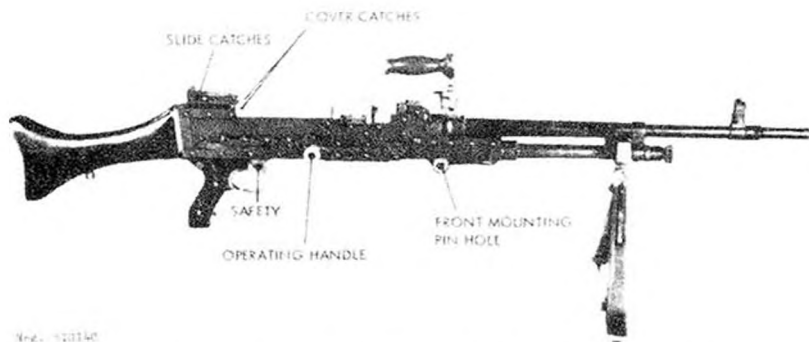
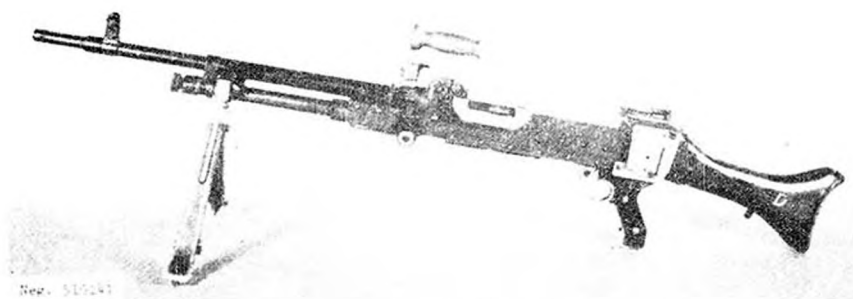
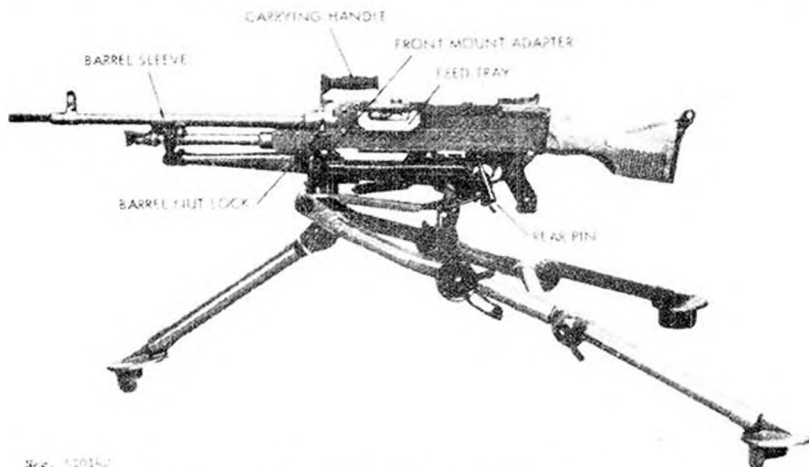
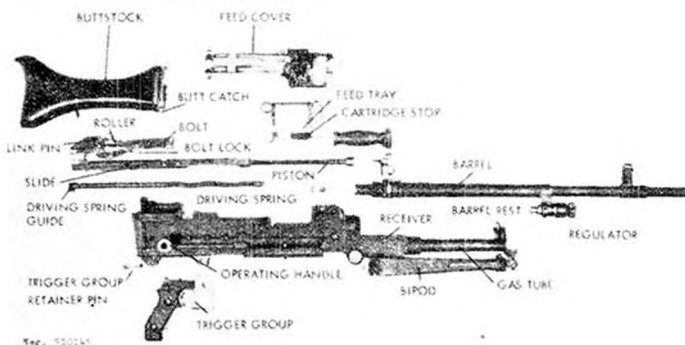

Figure 141. Belgium M.A.G. machinegun.
Figure 142. British L7A1 machinegun.
Figure 143. M.A.G. on tripod mount.
Figure 146. M.A.G. disassembled.
a. The M.A.G. machinegun (fig 141) was developed in Belgium by the F.N. organization in 1958; M.A.G. stands for *Mitrailleuse a Gaz* or gas-operated machinegun. The M.A.G. is used not only by the Belgian Army, but also by British, Swedish, Israeli, and several other armies. The British guns (fig 142) are known as Machinegun 7.62-mm L7A1 (or L7A2) and are so marked on the left side of the receiver. The Swedish gun is the Kulspruta 58, and the other countries usually refer to these guns by the manufacturer's designation: M.A.G. 58.
b. The M.A.G. is an air-cooled, gas-operated belt-fed general purpose machinegun. It is normally fired from its bipod, but it can also be mounted on and fired from a light tripod (figs 143 and 144). The barrel is of the quick change type. Special versions without butt stocks or bipods are available for use in armored vehicles. An accessory butt stock and bipod is carried in the vehicle for use when the gun must be dismounted for emergency ground use.
b. Open the bipod by pressing in the bipod retainers (located on the receiver between the bipod feed), and at the same time, squeeze the bipod legs together to disengage them from the receiver. When the legs are free, swing them to open. To install the gun on a tripod mount, align the front mounting pin hole of the gun (fig 141) with the front adapter (fig 143) and install the front pin. Lower the receiver down onto the rear mount adapter and insert the rear pin. Refer to paragraph 199 for additional information on tripod mounts.
c. Pull the operating handle (fig 141) fully rearward and then thrust it fully forward. Press the safety (fig 141) to the right (to safe "S"). Press the cover catches (fig 141) and open the cover. Place a loaded ammunition belt on the feed tray, open side of the link down, and first cartridge resting against the cartridge stop (fig 141). Close the cover. CAUTION: The gun is now loaded and ready to fire.
d. Lift the rear slight leaf. Press the slide catches (fig 141) and move the slide along the leaf until the top of the slide aligns with the numeral that corresponds to the range in hundreds of meters. The battle sight, visible when the leaf is folded, is for ranges up to 200 meters.
f. When the barrel becomes hot from firing, it should be changed. Press the barrel nut lock (fig 143) and, while holding it in, rotate the carrying handle to its vertical position. (This action rotates the barrel nut and unlocks the barrel.) Pull the barrel forward, out of the gun. Place a cool barrel on the rest at the front of the gas tube (fig 146). Align the rear end of the barrel with its hole in the receiver and seat the barrel. Rotate the barrel handle down to the right until the barrel nut lock clicks into place.
h. The gas regulator should be set so that the figure "1" is just visible under the left side of the sleeve around the barrel (fig 143). This gives a normal firing rate of approximately 650 rounds per minute. If a maximum rate of fire is desired, rotate the regulator until it is fully closed against its stop. Use settings "2" or "3" when the gun starts to malfunction due to fouling. Under very adverse conditions, close the regulator fully.
a. Clear the gun (para 196i). Remove the barrel (para 196f). Press the cover catches (fig 141) and open the cover. Depress the butt catch (fig 146) and slide the butt upward until it is removed.
b. Press the end of the driving spring guide (fig 146) forward, then upward, and ease it to the rear. Remove the driving spring. Hold a hand behind the receiver rear opening and pull the operating handle (fig 141) sharply rearward. The bolt and operating slide will come out of the rear of the receiver and can be removed. Push out the link pin (fig 146) and separate the bolt from the slide.
d. Align the holes in the link and slide and insert the link pin. Start the piston into the receiver. Press the bolt lock (fig 146) against the bolt and pull the bolt as far forward as possible from the slide. Align the bolt up with its guides and push the entire bolt and slide forward. Insert the driving spring into the slide, press the trigger, and use the spring to push the slide (and bolt) fully forward. Press the driving rod forward, against spring pressure, until it can be seated in the slot in the bottom of the receiver.
c. For the M.A.G. tripod, remove the rear pin (fig 143) from its hole, then place the gun on the mount with the gun mount bosses engaged with the shoulders on the front of the front mount adaptor (fig 143). Align the rear pin holes in the receiver with the holes in the mount and insert the rear pin (fig 143). Reverse this procedure to remove the gun. To traverse the gun, loosen the traverse clamp. Tighten this clamp before firing. Fine traverse adjustments are made after tightening the traverse clamp by rotating the fine traverse knob. To elevate the gun, release the clamp on the elevating knob and rotate the knob to elevate or depress the gun. Relock the clamp before firing.
B. THE 7.62-MM AND .303 (7.7-MM) BREN LIGHT MACHINEGUNS (UK)